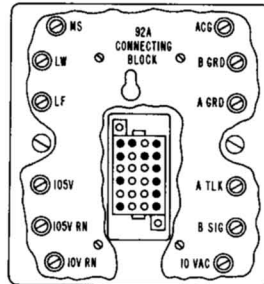

Fig. 6—19-, 20-, 29-, or 30-Type Power Unit Connection Using 92A Connecting Block
3.05 Where power cannot be supplied by a 79B1 (MD) or 79B2 power unit, power can be supplied from a separate 19-, 20-, 29-, or 30-type power unit. A 92A connecting block (Fig. 6) provides a means for connecting the power cable of the 626A panel to the power unit. An interrupter must be provided with the separate power unit to furnish the interrupted voltages to the panel. All straps between the power unit and the 92A connecting block are made with 18-gauge (solid) wire.